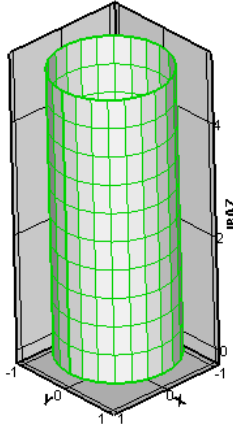

Figure 33-5. A cylinder created with the Extrude add-on.
8. Select “I-Planes” from the [Surfaces to Plot] button. Set Enter Range to Begin: “Mx”, End: “Mx”, and Skip: “1”. The result is shown in Figure 33-5.